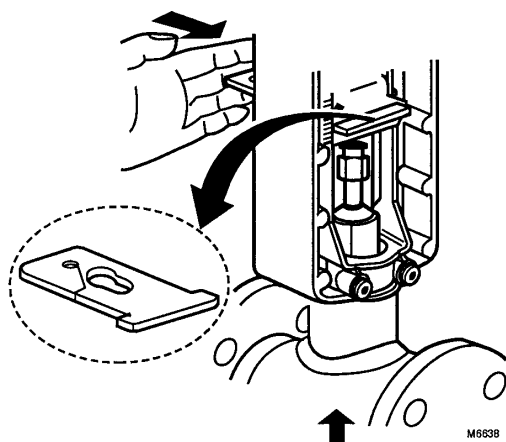

Fig. 3. Attaching actuator to valve stem.
- Push the stem button retaining clip and hold. See Fig. 3.